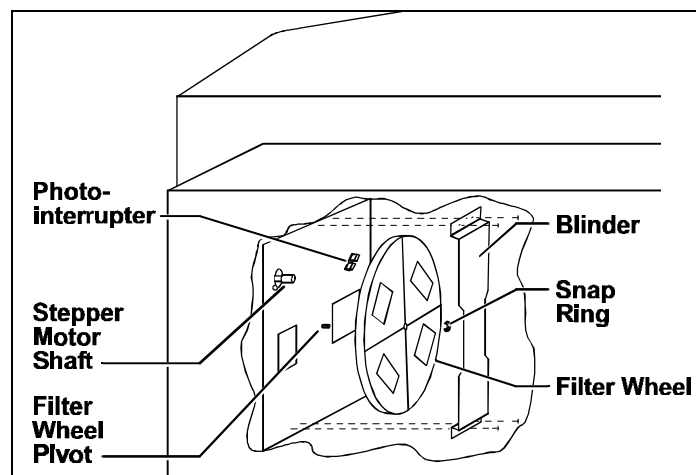

Figure 6-30. Removing the filter wheel from its pivot
2. Reach inside the compartment with the short Phillips-head screwdriver to remove the filter wheel blinder (Figure 6-30).
3. Use the snap-ring removal tool or small pliers to remove the filter wheel snap ring (Figure 6-30), and remove the filter wheel from its pivot.
7. Pivot the spring-mounted stepper motor shaft away from the filter wheel pivot, mount the filter wheel back on the pivot, and release the stepper motor shaft so it contacts the outside of the filter wheel. **Be sure the filter wheel lip is located in the photo-interrupter slot** (Figure 6-30).